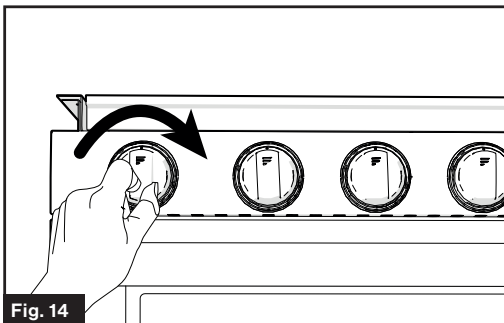

Fig. 14
3. Keep the burner control knob pushed in and turn the ignition knob clockwise repeatedly until the burner is lit. (Fig. 14)